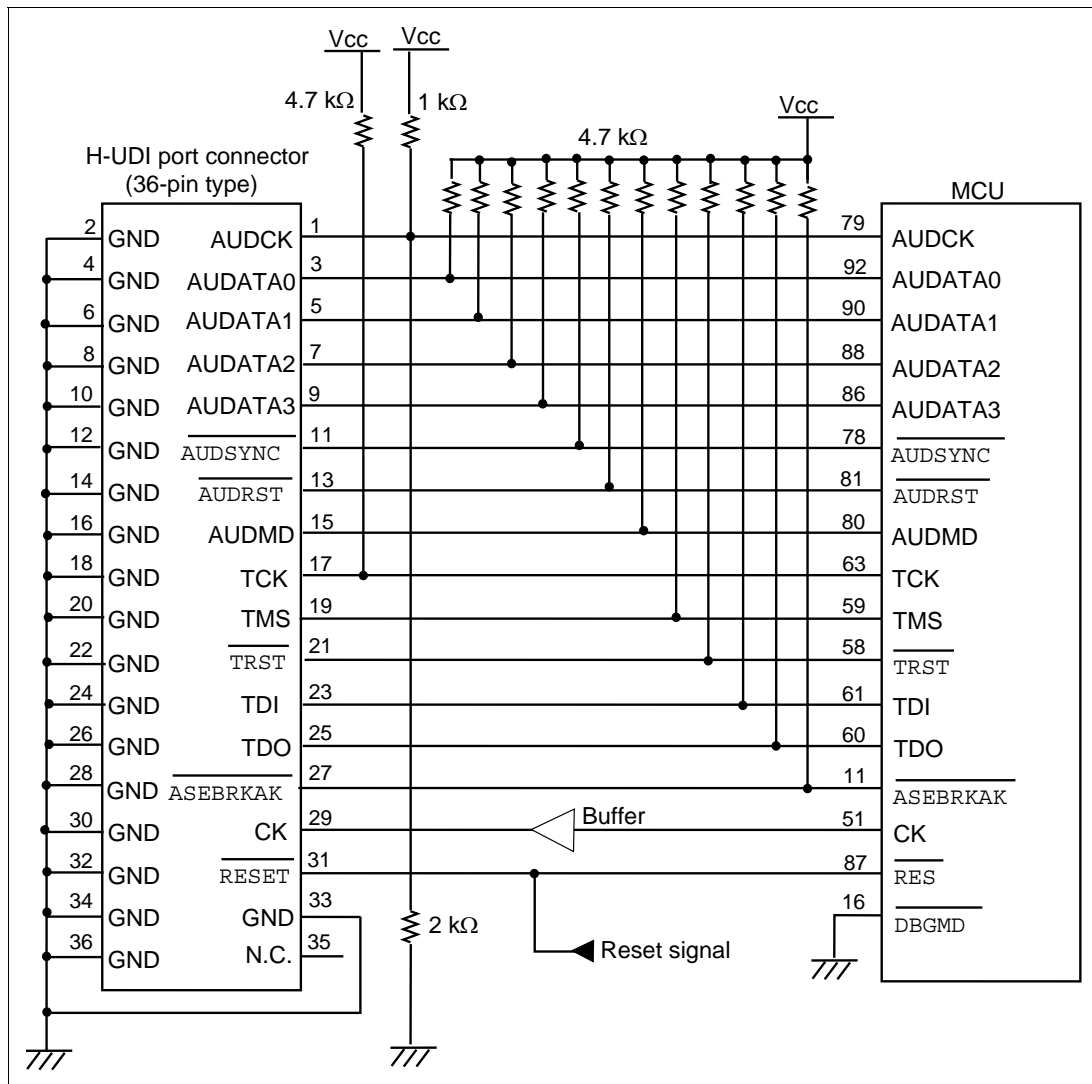

Figure 4.1 Recommended Circuit for Connection between the H-UDI Port Connector and the MCU (36-Pin Type)
Figure 4.1 shows a recommended circuit between the H-UDI port connector (36 pins) and the MCU.
5. When the emulator is used, connect the CK pin between the H-UDI port connector and the MCU via a buffer (74LVC125 is recommended) as shown in figure 4.1.
- (1) When the emulator is used: /DBGMD = low
- (2) When the emulator is not used: /DBGMD = high
8. The resistance values shown in figure 4.1 are recommended.